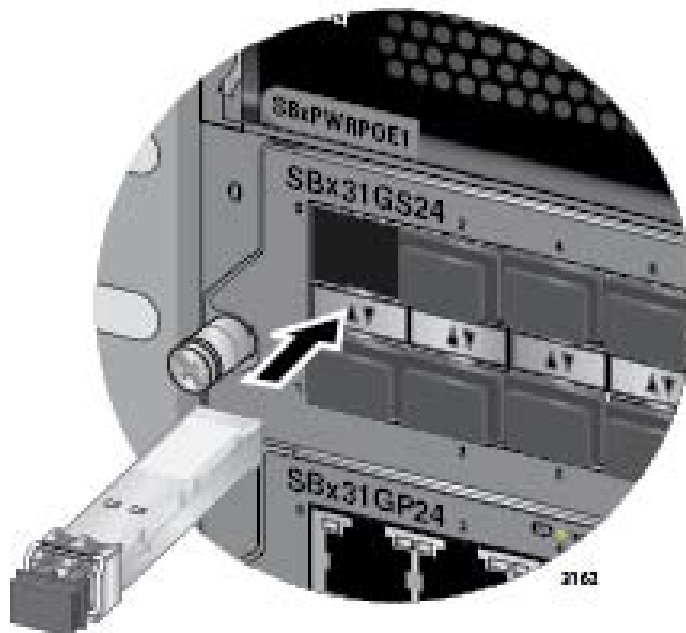

Figure 100. Inserting the Transceiver
- Slide the transceiver into the transceiver slot until it clicks into place, as shown in Figure 100.